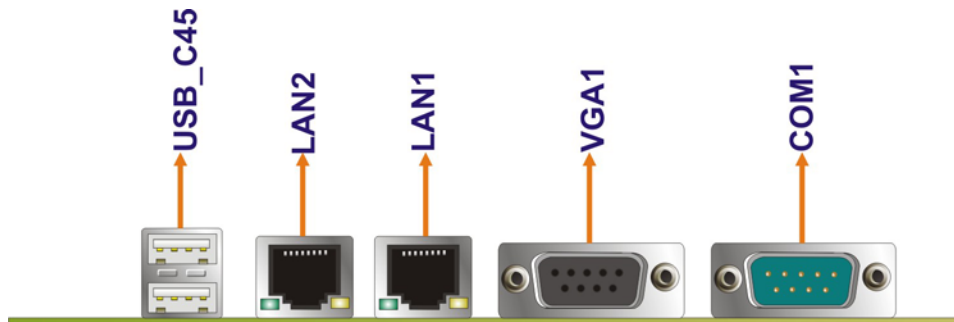

Figure 3-14: ECW-281B-945GSE External Peripheral Interface Connector
Figure 3-14 shows the ECW-281B-945GSE external peripheral interface connector (EPIC) panel. The ECW-281B-945GSE EPIC panel consists of the following:
CN Location:	See Figure 3-14
CN Location: See **Figure 3-14**
- CN Location:** See **Figure 3-14**